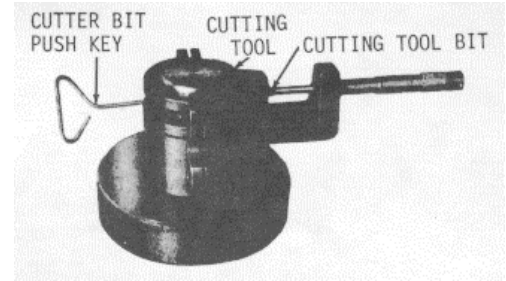

Fig. 6 Installing Cutting Tool Holder
- (8) Install the cutting tool holder on the micrometer test fixture. Use only the straight allen wrench supplied in the kit. See the cutting tool for the first cut of .040" (Fig. 6).